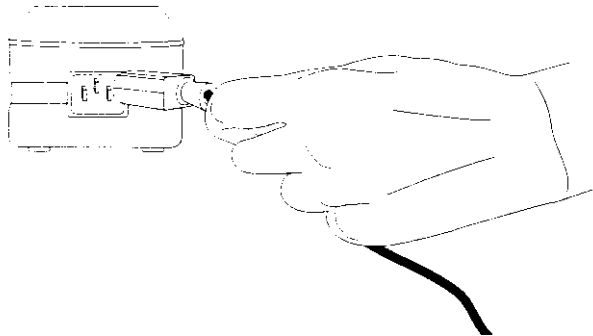

Figure 2-4. Plugging Power Supply into Adapter Cable
4. Connect an adapter cable to the other end of the power supply (Figure 2-4).